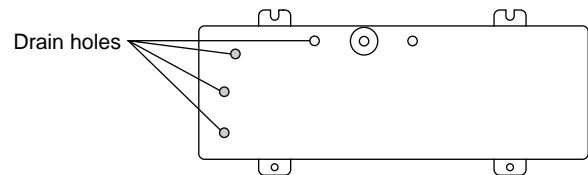

Fig. 5b
- provide a solid base (level concrete pad, concrete block, 2 to 2-1/2 (CH09, 12) / 2-1/2 to 3 (CH18) in. × 16 in. (5 to 6.5 / 6.5 to 7.5 × 40 cm) beams or equal), a minimum of 4 in. (10 cm) above ground level to reduce humidity and protect the unit against possible water damage and decreased service life (Figs. 5b and 5c).